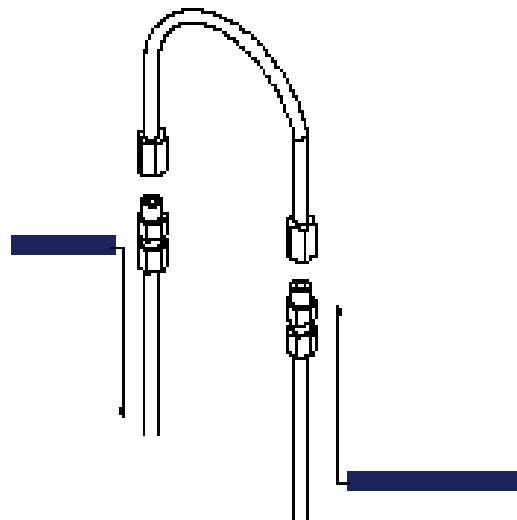

Figure 4-1, Jumper Line
2. Purging can be accomplished by installing a jumper line and operating each hydraulic function (clamp, rotate and side shift if equipped) in each direction for a minimum of 30 seconds. (Figure 4-1)